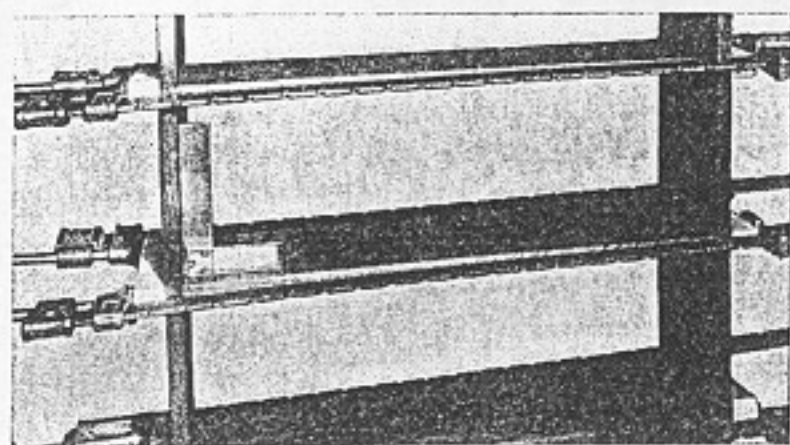

Fig. 272. Squaring bookcase by placing the clamps obliquely.
7. A try-square is used to test for squareness. If the shelves and sides are not at right angles to each other, the clamps are loosened and placed obliquely until this defect is corrected (Fig. 272).